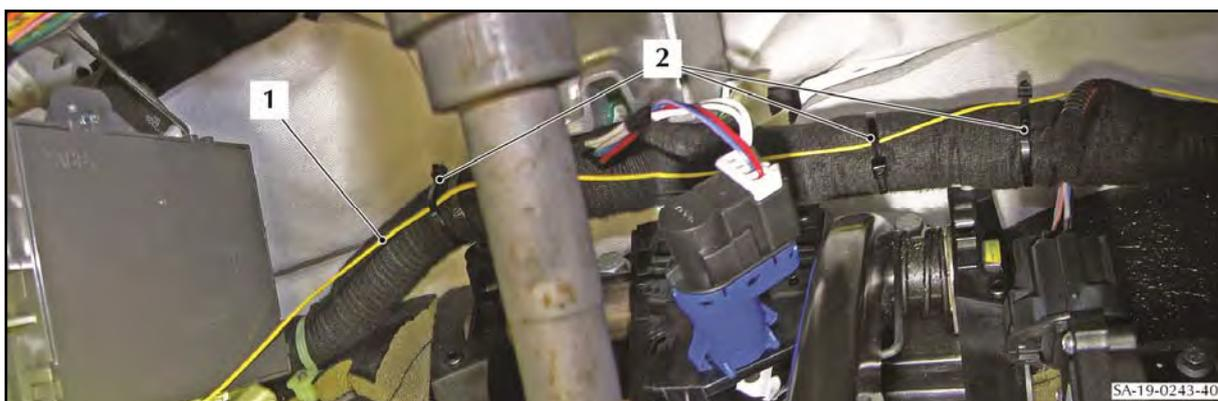

Figure 79
109. Put the new ground wire (1) along the harness inside the cabin towards the console. Use cable ties (2) to attach the wire (refer to Figure 79).